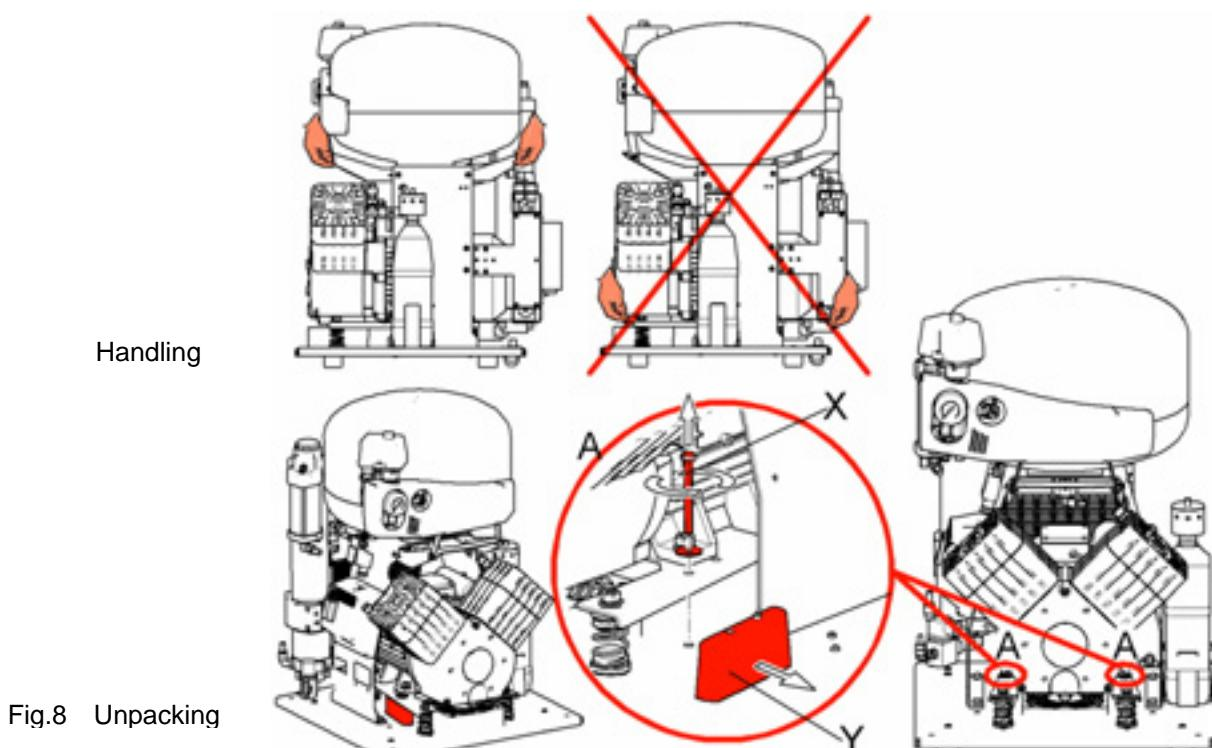

Fig.8 Unpacking
**Dental compressor DK50 2V, DK50 2V/M, DK50 2V/110, DK50 2V/110/M, DK50 2x2V/110, DK50 2x2V/110/M (Fig.8)**
**Dental compressor in box DK50 2VS (Fig.6, Fig.8)**
**Dental compressor in box DK50 2VS/M (Fig.6, Fig.8)**